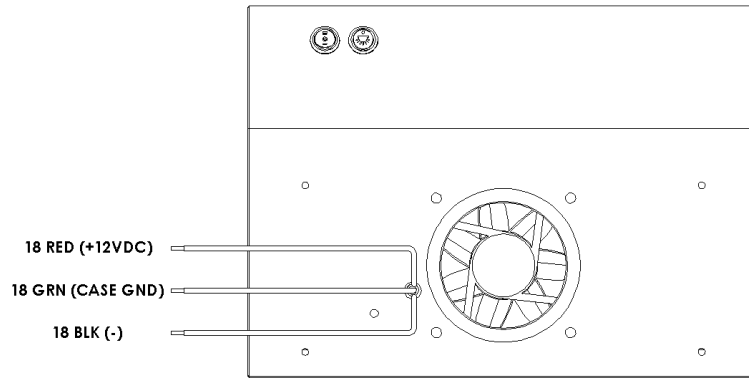

Figure 4
4. Connect the electrical wires to the cooker hood as follows (see figure 4).